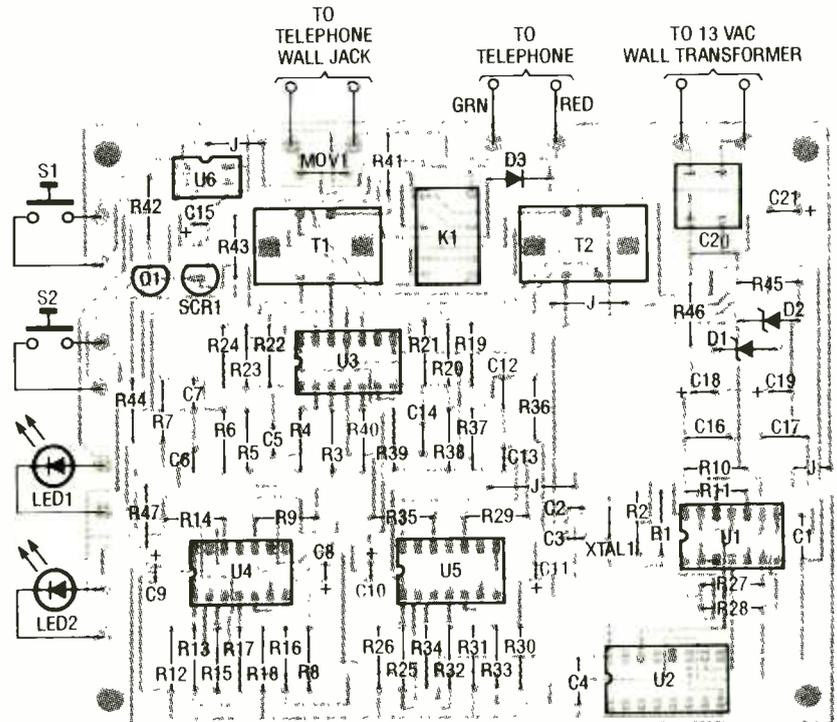

Fig. 4. Use this parts-placement diagram when assembling the printed-circuit board. Don't forget to install the four jumpers.
and solder the green and red wire of that cord to the appropriate points on the board as in Fig. 4. Label the other cord TO TELEPHONE and solder its green and red wires to the appropriate circuit-board pads. Lastly, hook up the wires to the LED's, switches, and power jack, and mount the board to the standoffs.
**Construction.** A template for the Digital Logic Probe's printed-circuit board is shown in Fig. 4. Although the author's prototype unit was built with that layout, a printed-circuit board is really not needed; the circuit can easily be built on a small piece of perfboard. With either method, try to make the board a size that fits snugly into the enclosure; once again, a coin tube is used. If the board is made too